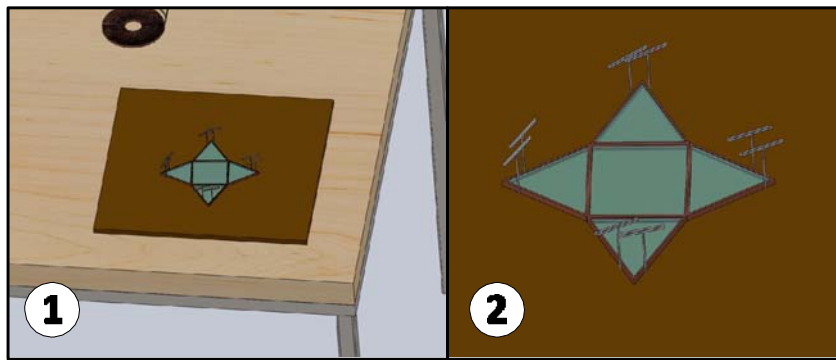

Figure 6: Pinning the pieces in place- (1) Lay out the piece and tack it together. (2) Make sure you position the tacks so they hold the pieces snug together.
- B.** With each piece in place, stick **T-pins** into the cardboard in the locations shown in Figure 6. Make sure the pins are snug up against each piece and each piece is snug with each other. The pressure from the pins holds the pieces in the correct orientation while they are being soldered.